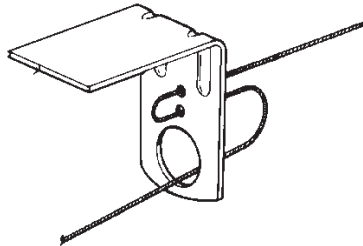
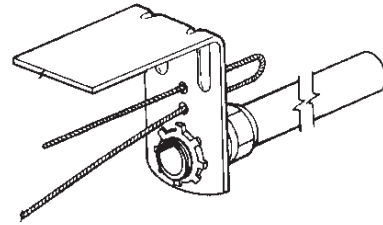
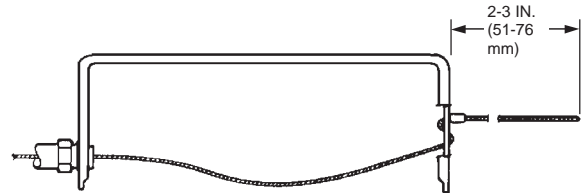

FIGURE 5-25
FIGURE 5-26
FIGURE 5-27
- Feed the wire rope through the terminal detector bracket as shown in Figure 5-25 or as shown in Figure 5-26 if the terminal detector is mounted within a duct or header opening, and install the stop sleeve approximately 2 to 3 in. (51 to 76 mm) from the end of the wire rope. See Figure 5-27. Use the National Telephone Supply Company Nicopress Sleeve Tool (Stock No. 51-C-887) or equal to properly crimp the stop sleeve.